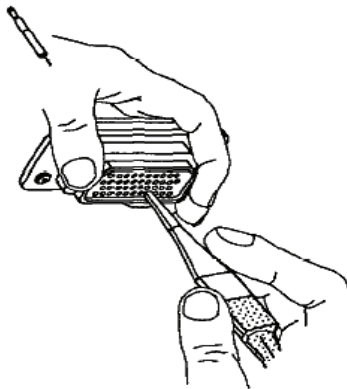

Figure 21. Broken Wire Contact Removal
h. Push contact completely out rear of connector before disengaging removal tool (Figure 21).